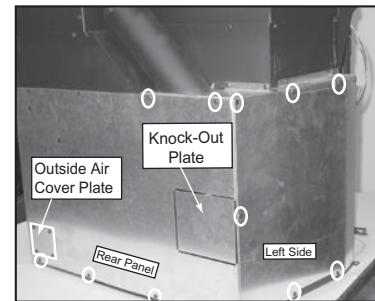

Figure 21.3
Top Vent Applications: Leave knock-out plate in place. **Figure 21.3**
1. Install rear panel using 4 screws along bottom and 2 screws into the left shroud corner piece at the top. **Figure 21.3.**
3. Attach left shroud panel using seven screws, 3 on top and bottom and 1 along the side. **Figure 21.3.**